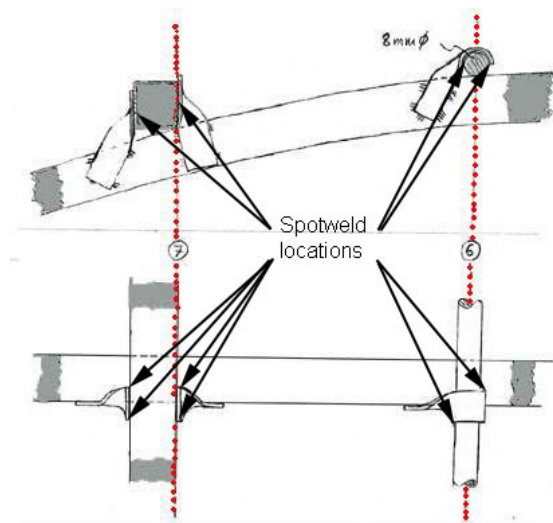

Fig. 54: Spot welding CBs
**Step 5** Align CB4 such that its centreline is **EXACTLY ALIGNED** with Line 4 on the template. The inner edge of CB4 is guiding to the inner edge of the frame (dashed line in Fig.54) For proper fitting, adjust the bends of Fcbs. See Fig.54. Do not force any of the CBs to fit, cut them to the correct length if necessary.